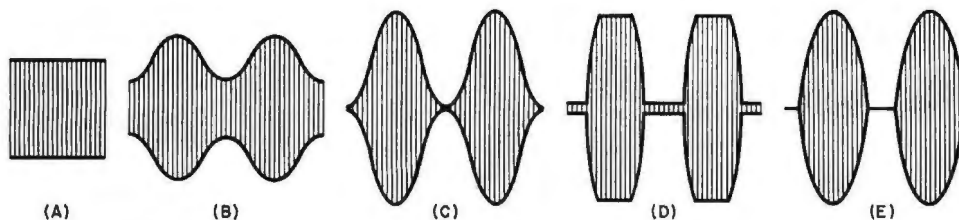

Fig. 2. R-f envelopes of an AM transmitter: (A) unmodulated; (B) 50% modulation; (C) 100%. Clipping (D) and overmodulation (E) cause station interference.
*AM Modulation Percentage* describes the amount of carrier modulation. The optimum value is 100 percent. Most CB rigs are capable of 90- to 100-percent modulation. The difference between the two values is not audibly perceptible, however. R-f envelopes with varying degrees of modulation are shown in Fig. 2. Some of the following comments are based on these sketches.